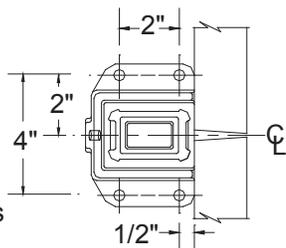
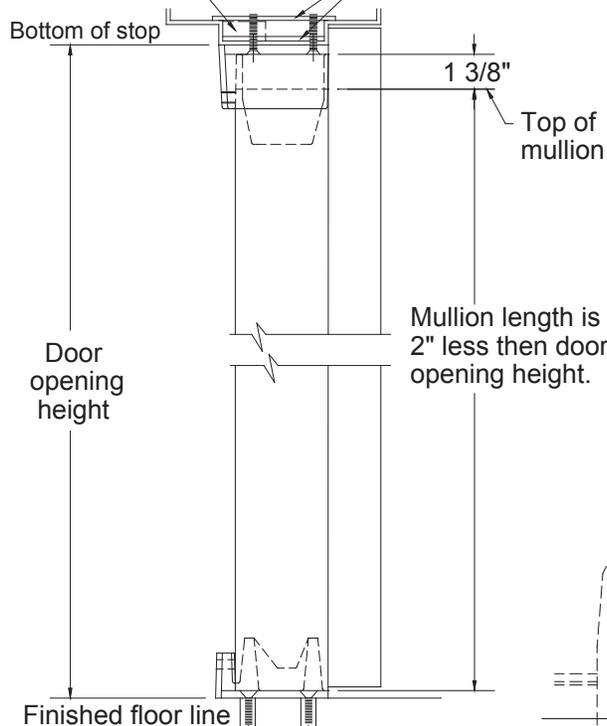

Fig. 3
Fig. 1
Step 1: Measure door opening from finished floor to bottom of stop at centerline of doors. (See Fig. 1) Subtract 2" from this dimension for mullion length. Measure and cut mullion from opposite end marked "Do not cut".
Step 2: Use bottom fitting as template; Mark and drill (2) 3/8" dia. x 2 1/2" deep holes. Insert (2) 3/8"-16 x 3" stud anchors, and secure bottom fitting with (2) washers and (2) 3/8"-16 nuts provided with anchors.
Step 3: Use top fitting as template; Mark and drill (4) .257 dia. holes and tap for (4) 5/16"-18 thread. Install top fitting and secure with (4) 5/16"-18 x 1 1/2" F.H.P.M.S.
Step 5: Secure mullion in place by tightening the (2) set screws in the top and bottom fittings.
- Step 1** MEASURE DOOR OPENING FROM FLOOR TO BOTTOM OF STOP AT CENTERLINE OF DOORS (SEE FIG. 1). SUBTRACT 2" FROM DOOR OPENING DIMENSION TO GET LENGTH OF MULLION. MEASURE AND CUT MULLION OPPOSITE THE END MARKED "DO NOT CUT".
- Step 3** USE THE TOP FITTING AS A TEMPLATE AND PLACE IT AT THE TOP OF THE DOOR OPENING (BOTTOM OF STOP) LINING UP CENTER LINES AS SHOWN IN FIG. 3. MARK AND DRILL (4) .257 DIA. ("F" DRILL) HOLES. NOTE: BE SURE AND DRILL THROUGH HEAD-FRAME AND UPPER REINFORCEMENT, SEE (FIG. 1). TAP FOR 5/16" - 18 THREAD. DO NOT INSTALL TOP FITTING.
- Step 4** WITH MULLION TILTED SLIGHTLY, INSERT ONE END INTO BOTTOM FITTING AND PLACE TOP FITTING ON OTHER END. TILT MULLION UP-RIGHT INTO PLACE AND SECURE TOP FITTING WITH (4) 5/16" - 18 x 1/2" F.H.P.M.S.
Step 1 MEASURE DOOR OPENING FROM FLOOR TO BOTTOM OF STOP AT CENTERLINE OF DOORS (SEE FIG. 1). SUBTRACT 2" FROM DOOR OPENING DIMENSION TO GET LENGTH OF MULLION. MEASURE AND CUT MULLION OPPOSITE THE END MARKED "DO NOT CUT".
Step 3 USE THE TOP FITTING AS A TEMPLATE AND PLACE IT AT THE TOP OF THE DOOR OPENING (BOTTOM OF STOP) LINING UP CENTERLINES AS SHOWN IN FIG. 3. MARK AND DRILL (4) .257 DIA. ("F" DRILL) HOLES. NOTE: BE SURE AND DRILL THROUGH HEAD-FRAME AND UPPER REINFORCEMENT, SEE (FIG. 1). TAP FOR 5/16" - 18 THREAD. **DO NOT INSTALL TOP FITTING.**
Step 4 WITH MULLION TILTED SLIGHTLY, INSERT ONE END INTO BOTTOM FITTING AND PLACE TOP FITTING ON OTHER END. TILT MULLION UP-RIGHT INTO PLACE AND SECURE TOP FITTING WITH (4) 5/16" - 18 x 1/2" F.H.P.M.S.